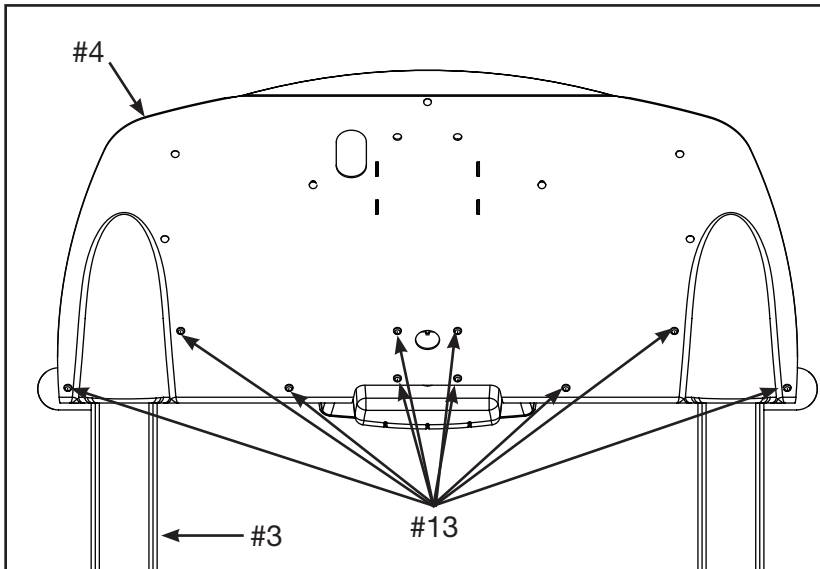

Figure 6
- D.** Using a Philips head screwdriver secure the console back (#4) to the upright assembly (#3) using ten screws 8-32 x .38" (#13). Fully tighten the two screws installed in step 7C. See Figure 6.